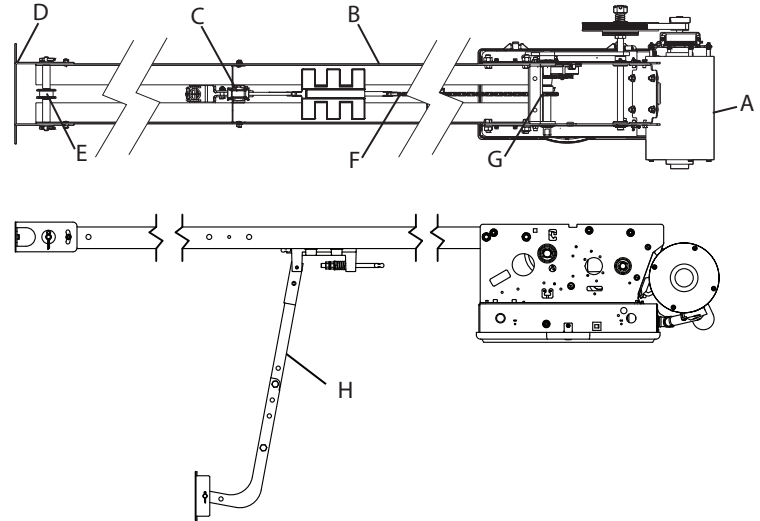

Figure 1
The Drawbar Operator consists of the Power Unit (A), Drawbar Rail (B), Chain Guides (C), Front Spreader (D), Front Idler Pulley (E), Drive Chain (F), Drive Sprocket (G) and Drawbar Arm (H). The Drawbar rail length, chain length and quantity of chain guides will vary by door heights. **Fig. 1.**